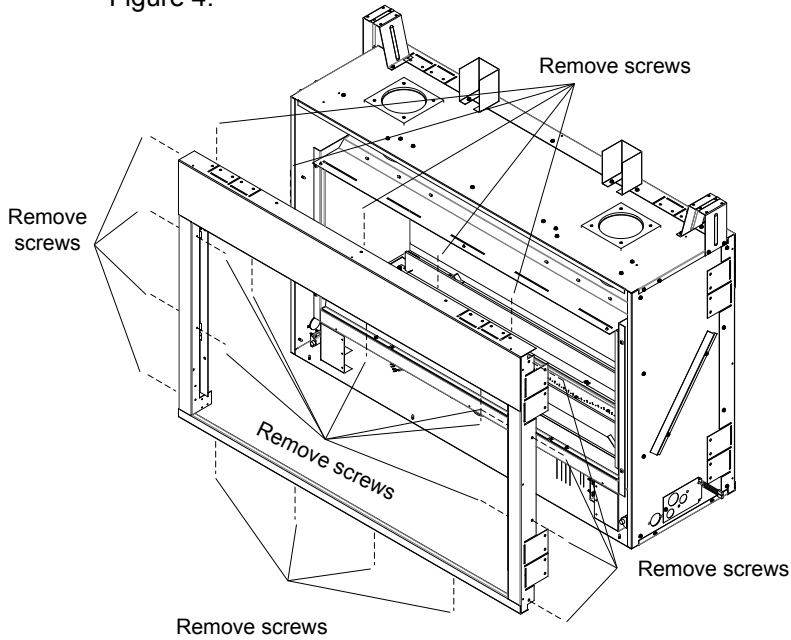

Figure 2. Remove the black face from the unit
3. Remove the black face from the non-control side of the unit held in place by 24 screws (four on the left, four on the right, four on the bottom, five on the top, four on the inner firebox and three on the top of the inner firebox.) See Figure 2. Both noncombustible brackets and standoffs must be removed on the non-control side and may be discarded.